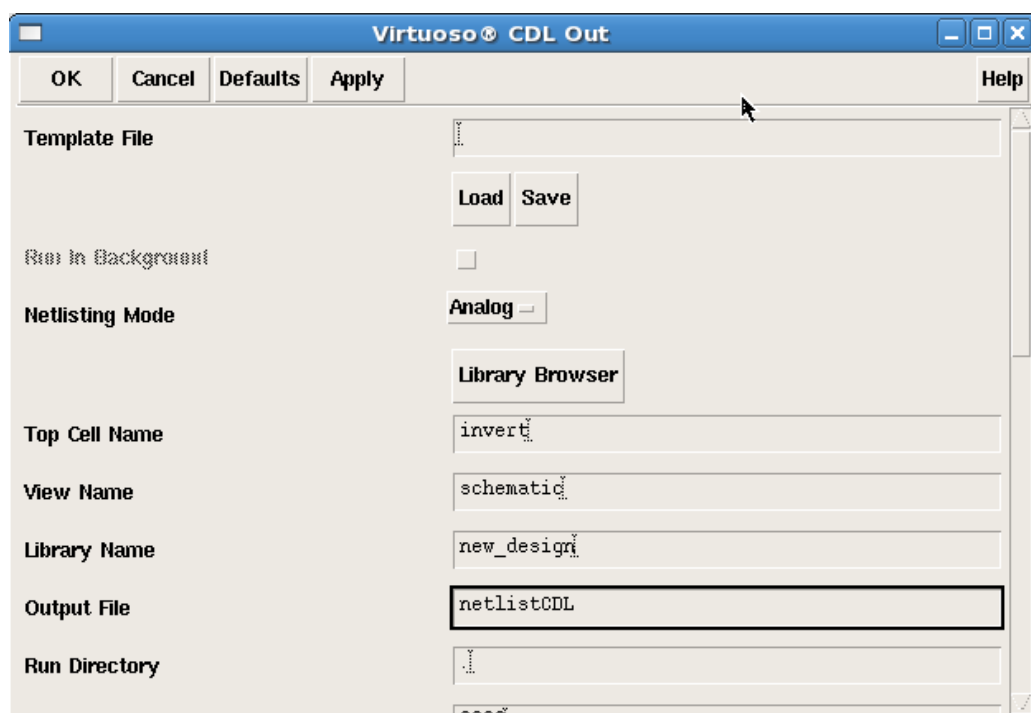

Fig.26
2. Select the top cell name to your design, make sure the netlist mode is "Analog", and fill in the output file name of the netlist (Fig 26).